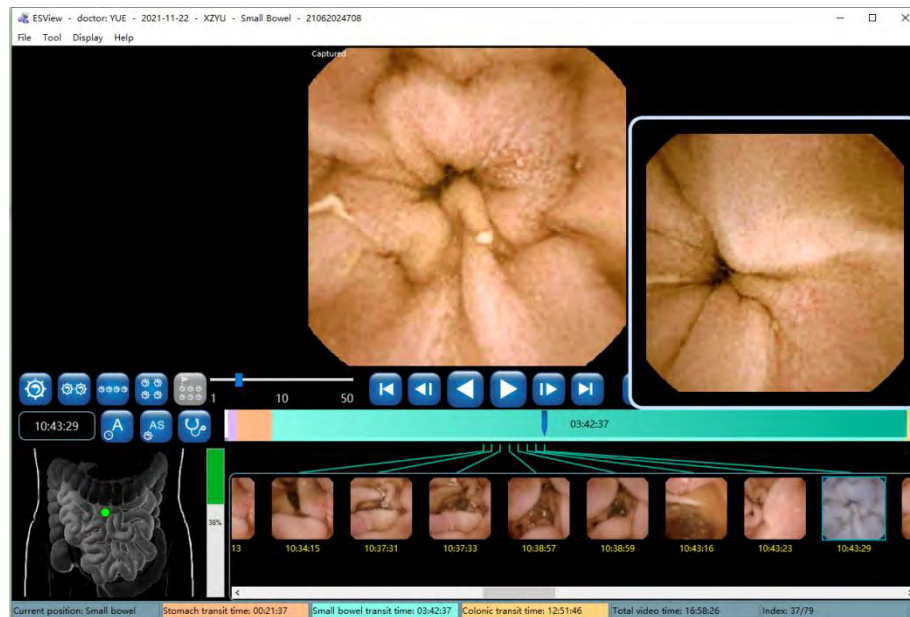

Figure 4-41: Image Preview
4. In the “Others” area, if the “Display image preview when mouse hovers over the time progress bar” option is checked, as the mouse moves over the progress bar, the preview of the image corresponding to the mouse location will be displayed in a floating window if the mouse stops for about 1 second, as shown in Figure 4-41.